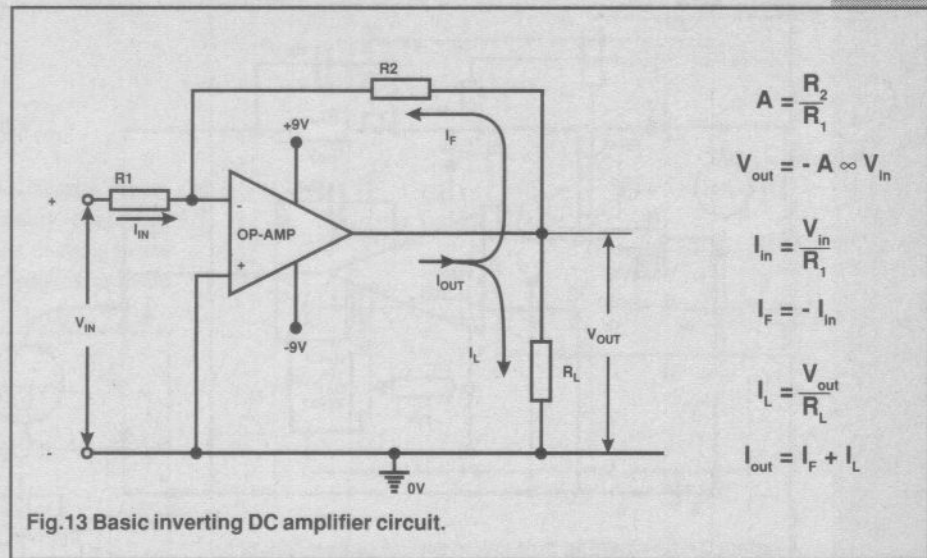

Fig.13 Basic inverting DC amplifier circuit.
An alternative way of making a DC millivoltmeter is via the basic op-amp inverting DC amplifier circuit of Figure 13, which gives a voltage gain (A) equal to the  $A_2/A_1$  ratio and generates an output voltage ( $V_{out}$ ) of  $-A \times V_{in}$ . Note that the op-amp's output current is equal to the sum of the currents